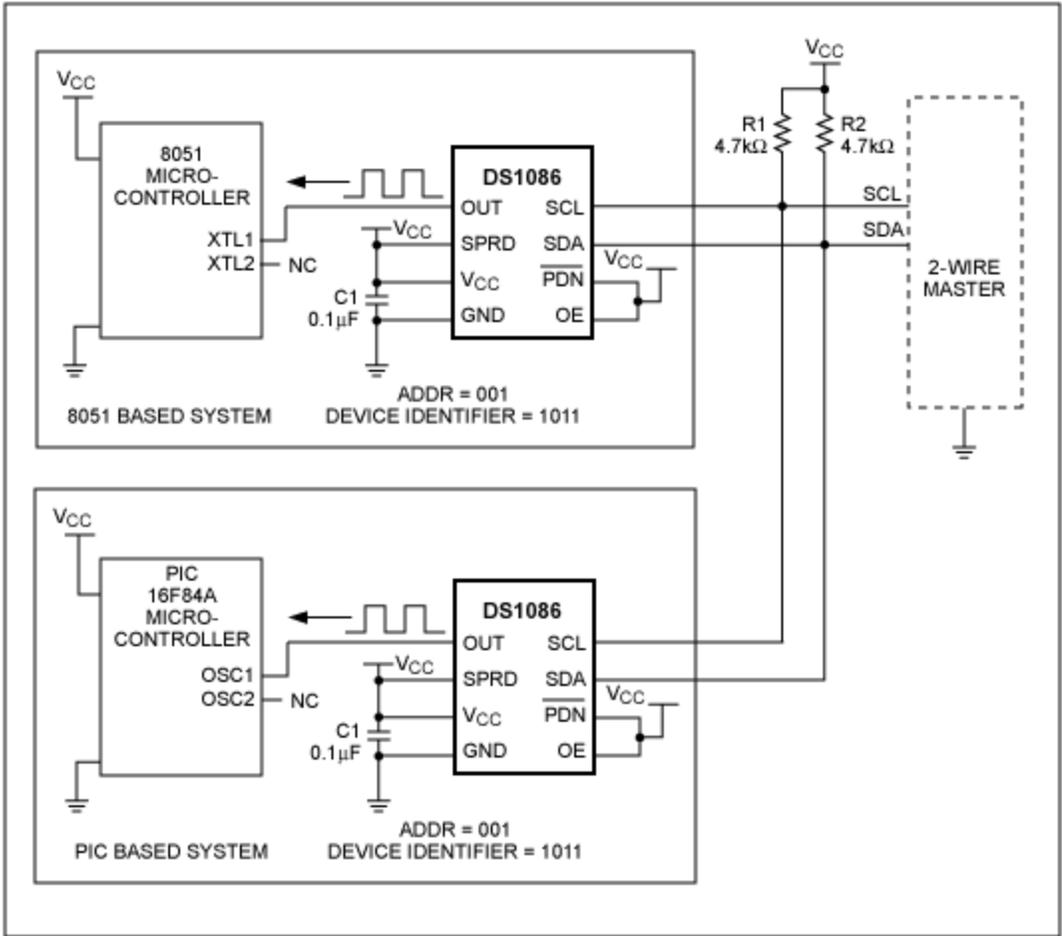

Figure 3. DS1086 as a system clock for an 8051 and PIC microcontroller.
**Figure 3** shows the DS1086 as a system clock for both the 8051 and the PIC microcontroller in processor-controlled mode. The figure also illustrates how multiple DS1086 devices can be used on a common bus. Each microcontroller is independent of each other although the same 2-wire master controls both microcontrollers.
For the 2-wire master to communicate with the DS1086, each DS1086 needs to have its own unique device address. To limit the size of the package, there are no external address pins. The device address is set with the three address bits in the ADDR register, A2, A1, and A0 (see **Figure 4**). The device address factory default is 000b. The DS1086 can be set to any address between 000b and 111b. If multiple DS1086 devices are on the same bus, as shown in Figure 3, their addresses need to be unique. The DS1086 in the 8051 system has a device address of 000b and the DS1086 in the PIC system has a device address of 001b.